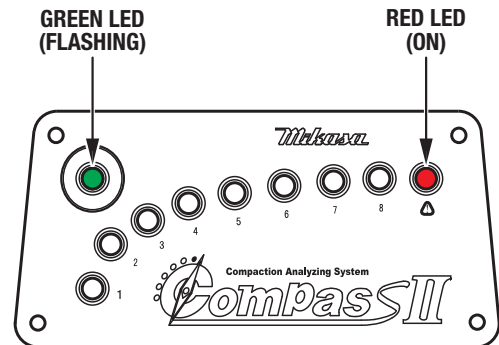

Figure 63. Sensor Panel Display (IDLE)
- When the plate compactor is started in **IDLE** mode, the green LED on the sensor panel (P/N 467310020 [MVH308DE], P/N 468310010 [MVH408DE], or P/N 469310010 [MVH508DE]) will flash, and the red LED will turn on. See Figure 63.